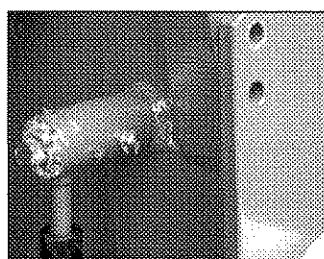

fig. 40e
- fig. 40e shows the lubricator of the outrigger support lock placed on the dual side position of the guide supplementary outriggers.